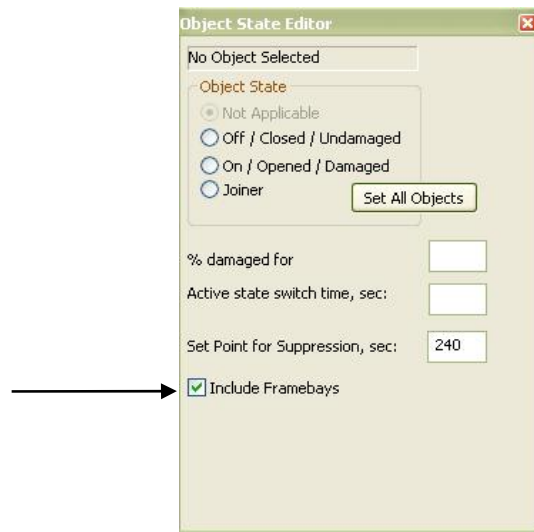

Figure 3-6 Including Framebays in the Object State Editor
Step 6: In the object state popup window (Figure 3-6), check the *Include FrameBays* box. This currently applies only to the Confined\_Space.